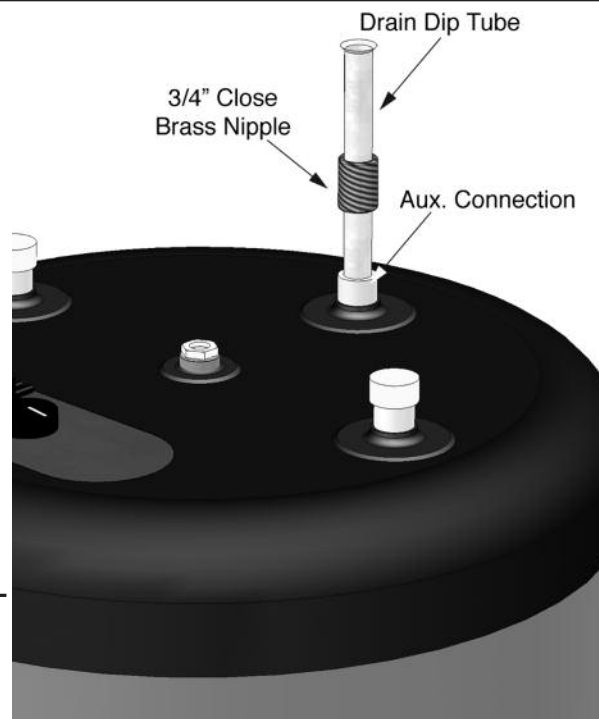

Fig. 3A: Drain Tube Assembly-Commonwealth of Massachusetts
- It is recommended that the recirculation dip tube be installed in auxiliary connection using a close nipple assembly as shown Fig. 3A, page 9. See Chart 1 page 6 for diameter and length of dip tube.